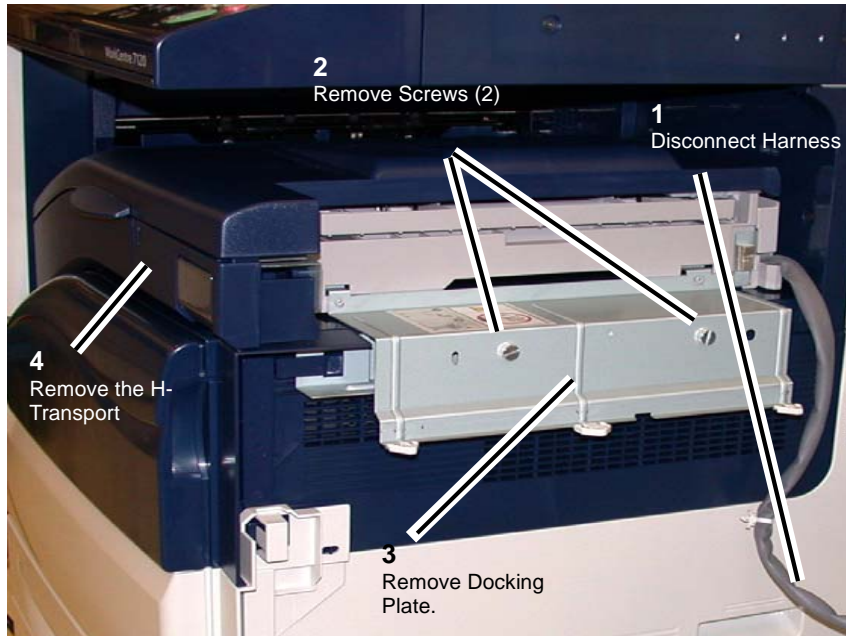

Figure 1 Removing the Docking Bracket
4. Move the H-Transport Assembly (Figure 1).